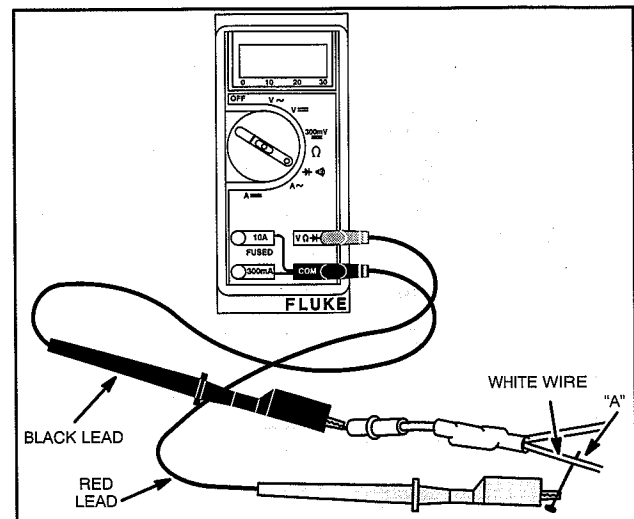

Fig. 19 - Diode Testing - Lighting Circuit
4. Attach RED test lead clip to point "A," (white wire) Fig. 19. (It may be necessary to pierce wire with a pin as shown.)